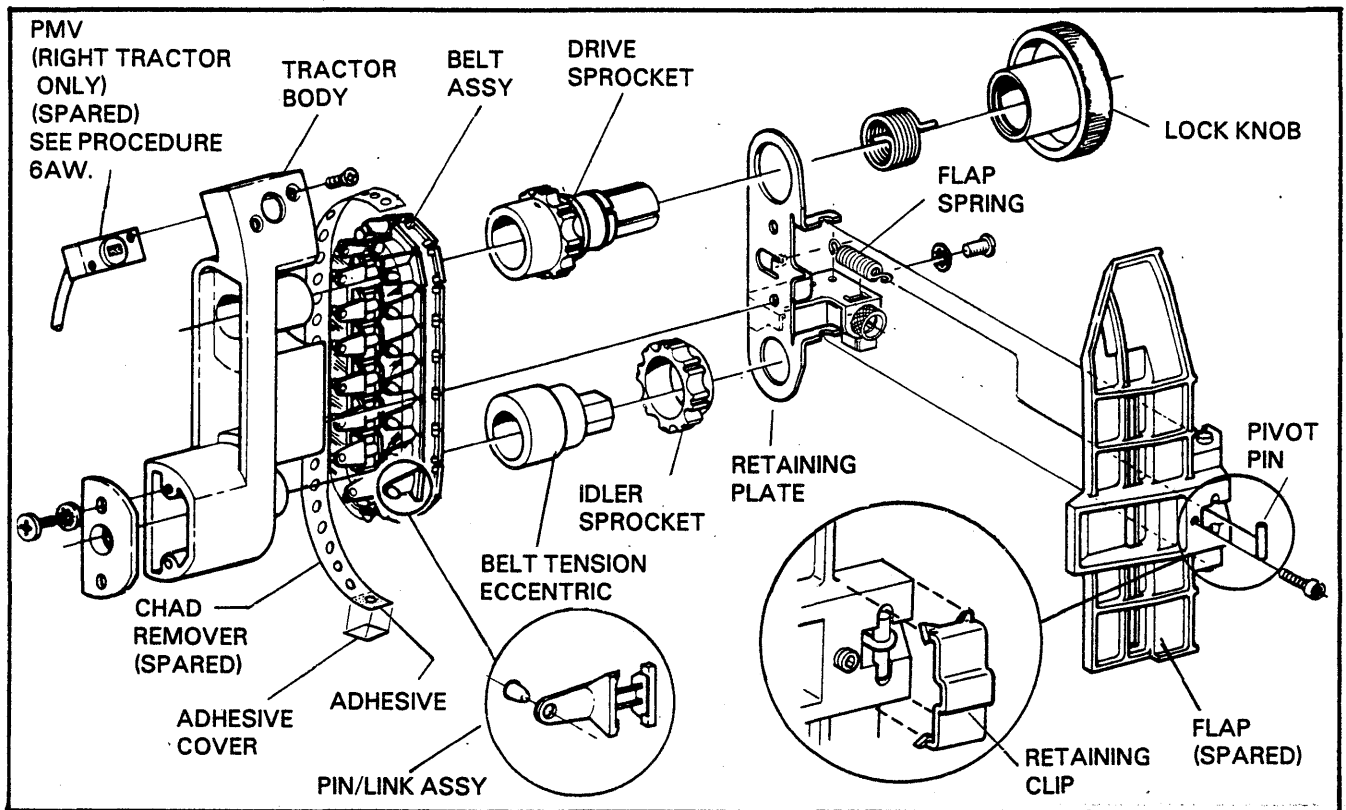

FIGURE 6-9. TRACTOR COMPONENTS LOCATOR
7. Remove the paper motion verification (PMV) sensor from the right tractor if replacing the right tractor (Figure 6-9).
8. Loosen the collar clamp and remove the coarse paper positioning knob and belt from the upper shaft (Figure 6-9). Check the knob for cracks. Replace if cracked.
**CHAD REMOVER PLASTIC STRIP REPLACEMENT (FIGURE 6-9)**